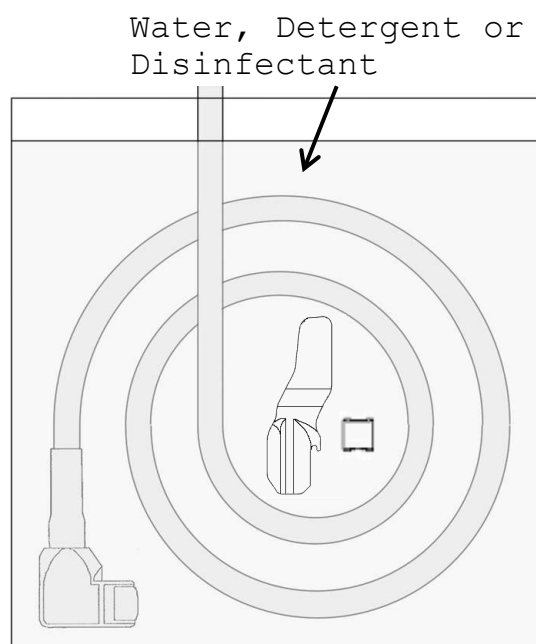

Fig. 13 Immersion of the probe and the Attachment.
- 2) Immerse the immersible part of the probe without connector into the diluted detergent solution (see Fig. 13). Wipe the immersible part of the probe under the surface of the detergent solution with a soft cloth to remove all visible soil. Be sure that all grooves of the probe are implemented during the cleaning process.
- 3) Immerse the immersible part of the probe into the disinfectant (see Fig. 13). Set a clock to insure the recommended contact time which is 5 minutes.
- 4) Rinse the immersible part of the probe with deionized water for 1 minute. (alternatively: immerse the immersible part of the probe in a tray filled with deionized water (see Fig. 13) for 5 min.)
- 3) Rinse the Attachment with deionized water for 1 minute. (alternatively: immerse it in a tray filled with deionized water (see Fig. 13) for 5 min.)